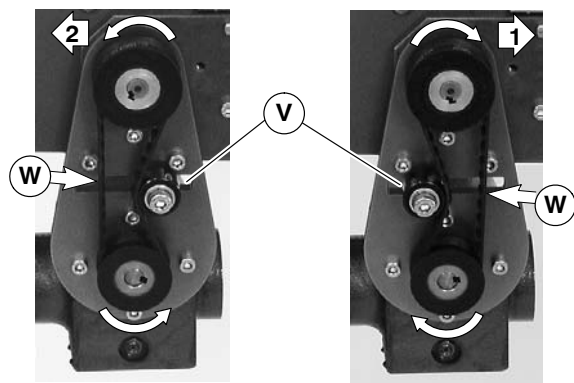

Figure 14
5. Depending on direction of conveyor belt travel (1 or 2 of Figure 14), position belt tensioner (V) as shown. Tension belt to obtain .125" (3 mm) deflection for 1.0 lb (456 grams) of force at belt mid-point (W). Tighten tensioner screw to 103 in-lb (12 Nm).